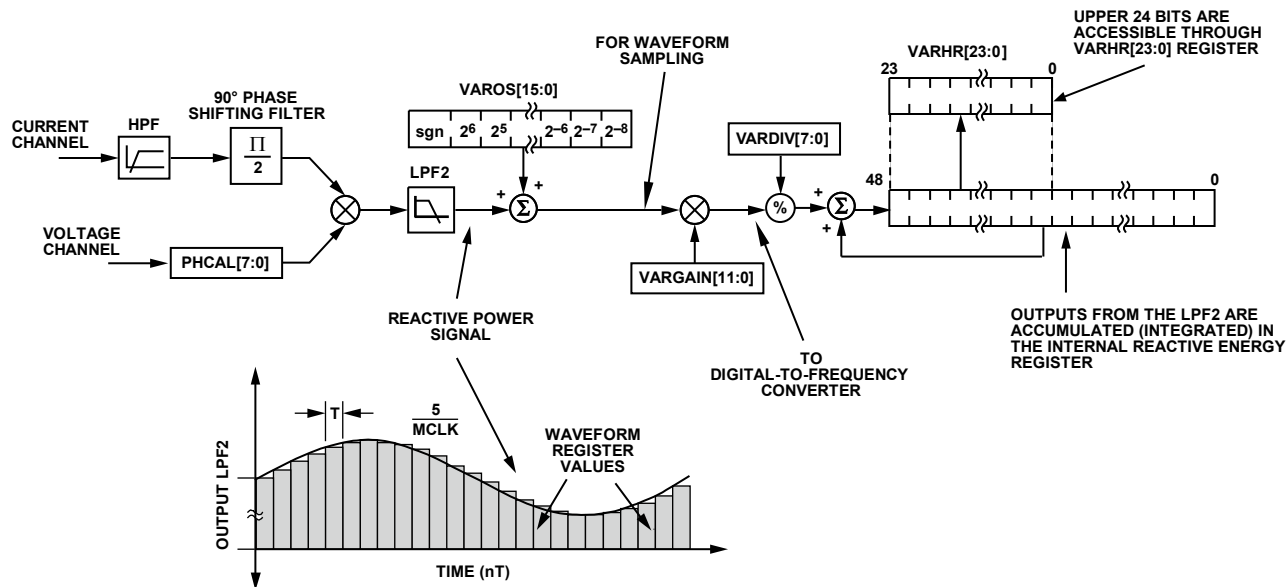

Figure 58. Reactive Energy Calculation
The instantaneous reactive power signal  $q(t)$  is generated by multiplying the voltage and current channels. In this case, the phase of the current channel is shifted by  $90^\circ$ . The dc component of the instantaneous reactive power signal is then extracted by a low-pass filter to obtain the reactive power information (see Figure 58).
Figure 58 shows the signal processing chain for the ADE7518 reactive power calculation. As explained in the Reactive Power Calculation section, the reactive power is calculated by applying a low-pass filter to the instantaneous reactive power signal. Note that, when reading the waveform samples from the output of LPF2, the gain of the reactive energy can be adjusted by using the multiplier and by writing a twos complement, 12-bit word to the VAR gain register (VARGAIN[11:0]). Equation 23 shows how the gain adjustment is related to the contents of the watt gain register.
The ADE7518 also incorporates a reactive power offset register (VAROS[15:0]). This is a signed, twos complement, 16-bit register that can be used to remove offsets in the reactive power calculation (see Figure 58). An offset may exist in the reactive power calculation due to crosstalk between channels on the PCB or in the IC itself. The offset calibration allows the contents of the reactive power register to be maintained at 0 when no power is being consumed.
The discrete time sample period (T) for the accumulation register in the ADE7518 is  $1.22 \mu\text{s}$  ( $5/\text{MCLK}$ ). As well as calculating the energy, this integration removes any sinusoidal components that may be in the active power signal. Figure 58 shows this discrete time integration or accumulation. The reactive power signal in the waveform register is continuously added to the internal reactive energy register.
As shown in Figure 58, the reactive power signal is accumulated in an internal 49-bit signed register. The reactive power signal can be read from the waveform register by setting the WAVMODE register (0x0D) and setting the WFSM bit in the Interrupt Enable 3 SFR (MIRQENH, 0xDB). Like the current and voltage channel waveform sampling modes, the waveform data is available at a sample rate of 25.6 kSPS, 12.8 kSPS, 6.4 kSPS, or 3.2 kSPS.